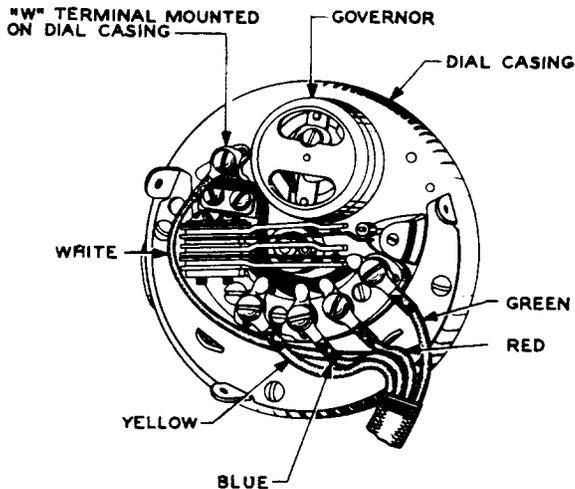

Fig. 4— Method of Cording Dials Having a Separate W Terminal Mounted Directly on the Dial Casing, Using DSP or No. 765 Cords
B. No. 34G and 34H Dial Mountings Used With Dials Having the W Terminal Mounted Directly on the Dial Casing (See Fig. 4) and Where the W Terminal Is Mounted Under the Spring Assembly Mounting Screw
Fig. 4) and Dials Having a W Terminal Mounted Under the Spring Assembly Mounting Screw: The procedure is the same as that outlined in 5.01 except that the white lead or the lead with the white tracer should be run to the left of the contact spring assembly as viewed from the terminal side of the dial with the governor uppermost.